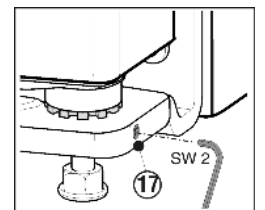

Fig. 11
- ▶ Extend the threaded pin Fig. 11 (17) a little (by one turn at most!).
- ▶ Tighten the threaded pin *Fig. 11 (17)* again to secure the bearing pin.
- ▶ Re-extend the middle adjustable feet (A) until they touch the floor.